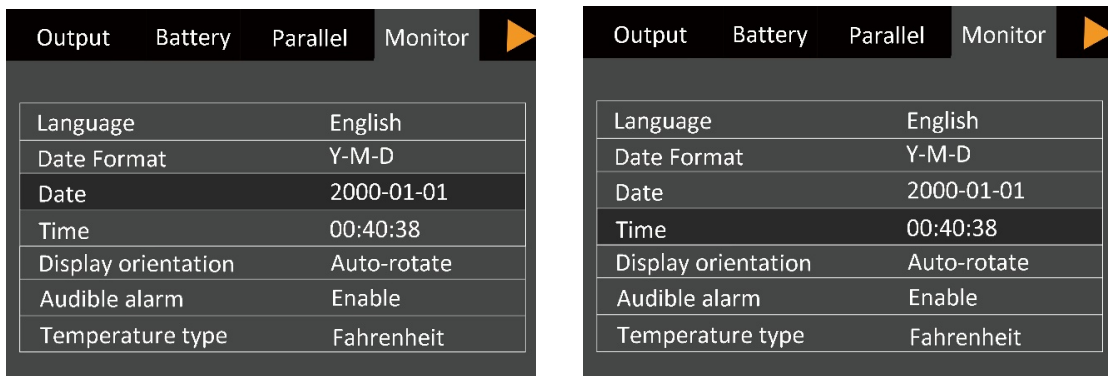

Figure 5-20 Selecting date and time
3. Press the key, followed by the or key to highlight the date and time, see Figure 5-20.